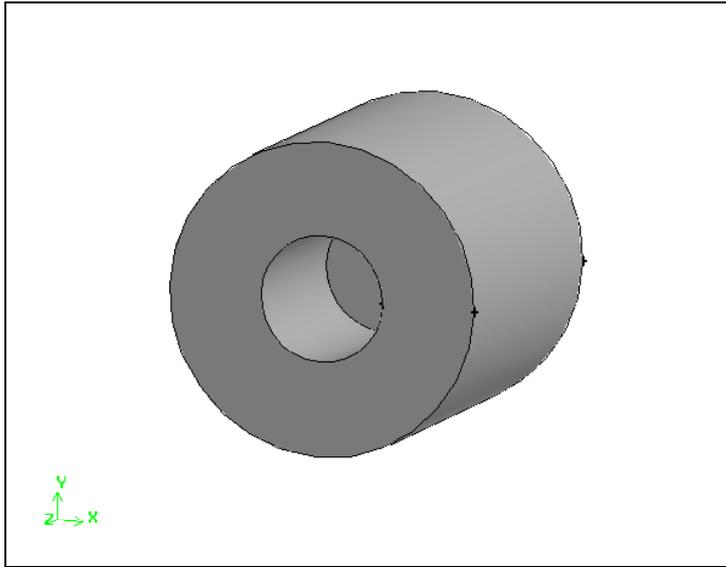

Figure 4-7: Shaded geometry showing hole in large cylinder
2. Hold down the left mouse button and drag the mouse to rotate the graphics display and see the cylindrical hole created in the large cylinder (see Figure 4-7).